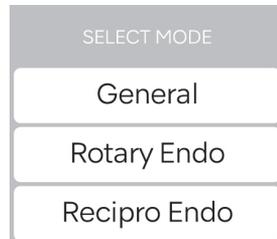

Figure 6.
2. Touch  goes to the SELECT MODE screen (Figure 6).
3. Select one of the functions according to your treatment purpose (Figure 6).